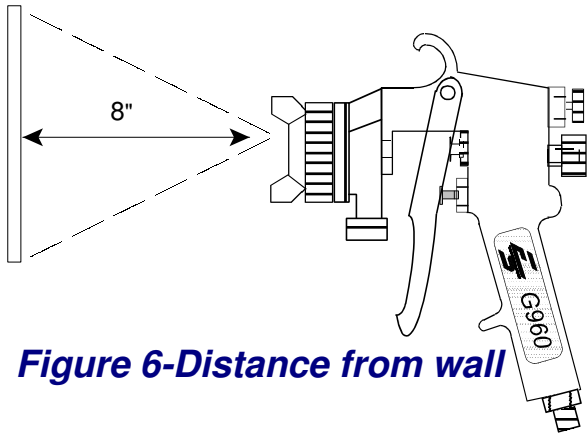

Figure 6-Distance from wall
- * Maintain a distance of about 8" from the work as shown in Figure 6.